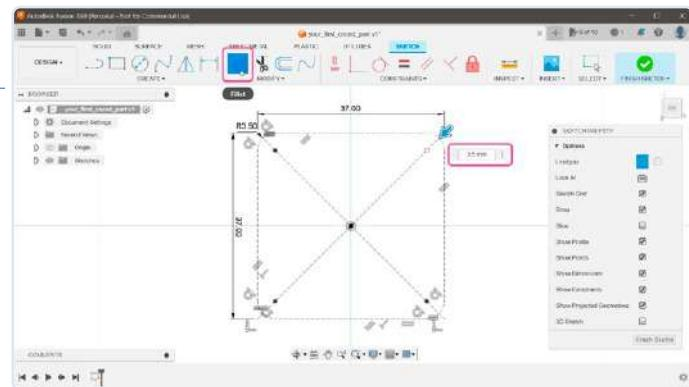

Figure 4: Rounding the enclosure's corners.
4) The PCB has rounded corners, and it would be nice if our enclosure matched those (**Figure 4**). A rough measurement shows that the corner radius is about 3.5 mm. In the toolbar, select the *Fillet* tool, and click on all the outer lines individually. Enter 3.5 mm for *Fillet Radius*.